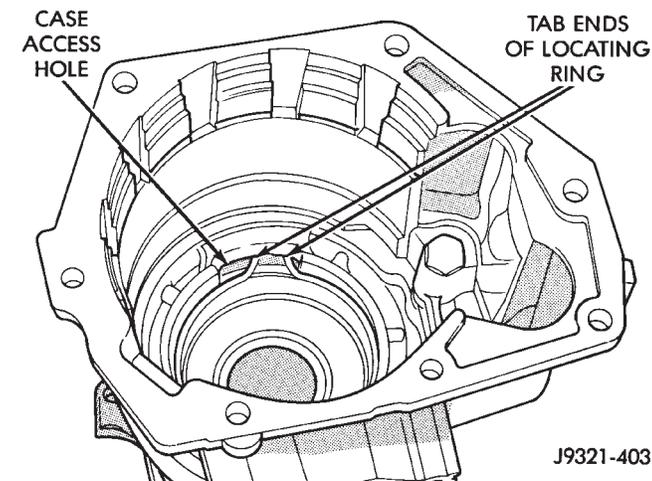

Fig. 255 Correct Rear Bearing Locating Ring Position
(5) Install new seal in gear case. On 4x4 gear case, use Tool Handle C-4171 and Installer C-3860-A to seat seal in case. On 4 x 2 gear case, use same Handle C-4171 and Installer C-3995-A to seat seal in case.
(6) Verify that tab ends of rear bearing locating ring extend into access hole in gear case (Fig. 255).